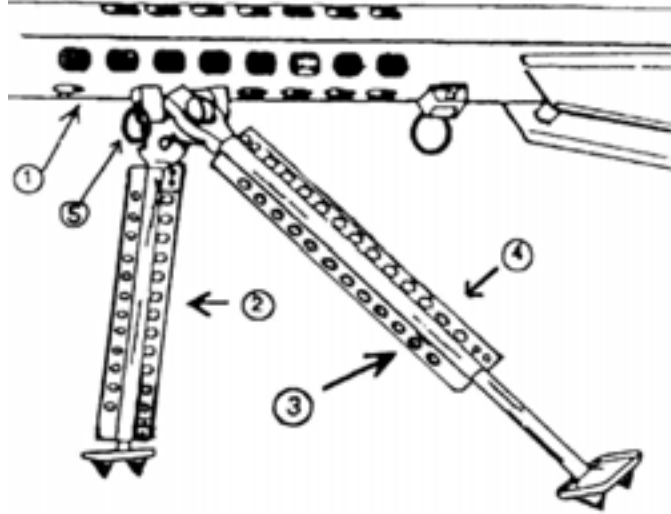

Figure 2-5. Extending Bipod Legs
1. Grasp the Lower Receiver Group and extend the bipod legs by pulling the legs down to the front, where they will lock into place. See Figure 2-5. (To retract, pull down on leg (1) and swing back into position along the receiver. If firing without using the bipod, fold them forward to preclude interference with the charging handle.) Pulling on the feet of the bipod (2) causes the legs to extend—to retract a leg, depress the plunger (3) located on the bipod leg and push on the foot (2). Place receiver on level surface.